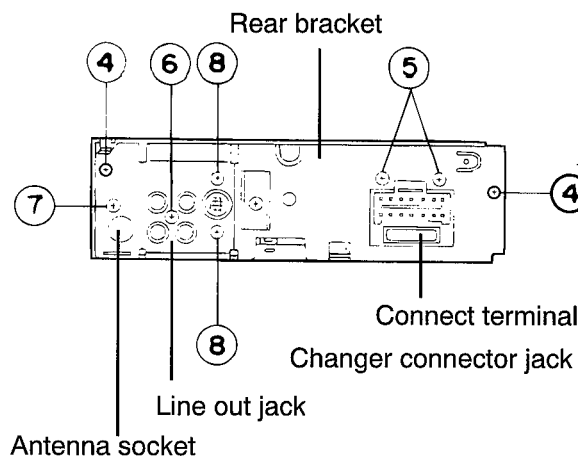

Fig.2-8
■ Removing the rear brackt (See Fig.2-8)
- 1.Remove two screws ⑤ to remove the connect terminal.
- 2.Remove one screw ⑥ to remove the line-out jack.
- 3.Remove one screw ⑦ to remove the antenna jack.
- 4.Remove one screw ⑧ to remove the changer connector jack.